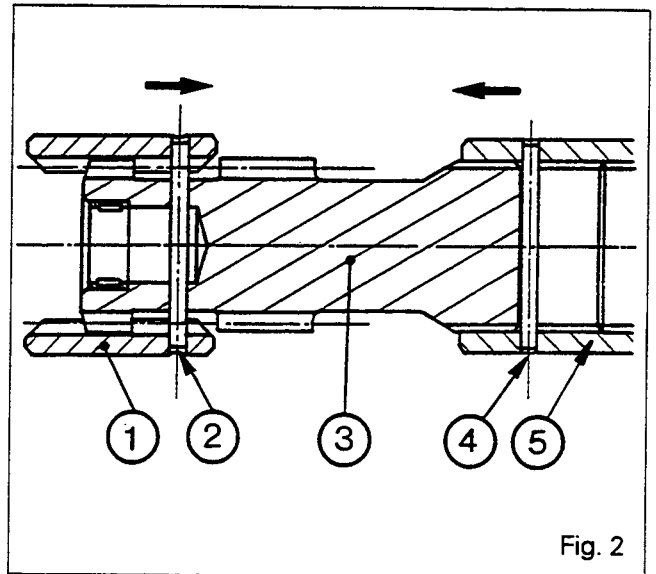

Fig. 2
8. Drive out the double pins (2) and (4) of the coupling sleeves (1) and (5). Slide the sleeves towards each other on the pin (3). Remove the pin and sleeve assembly (Fig. 2).